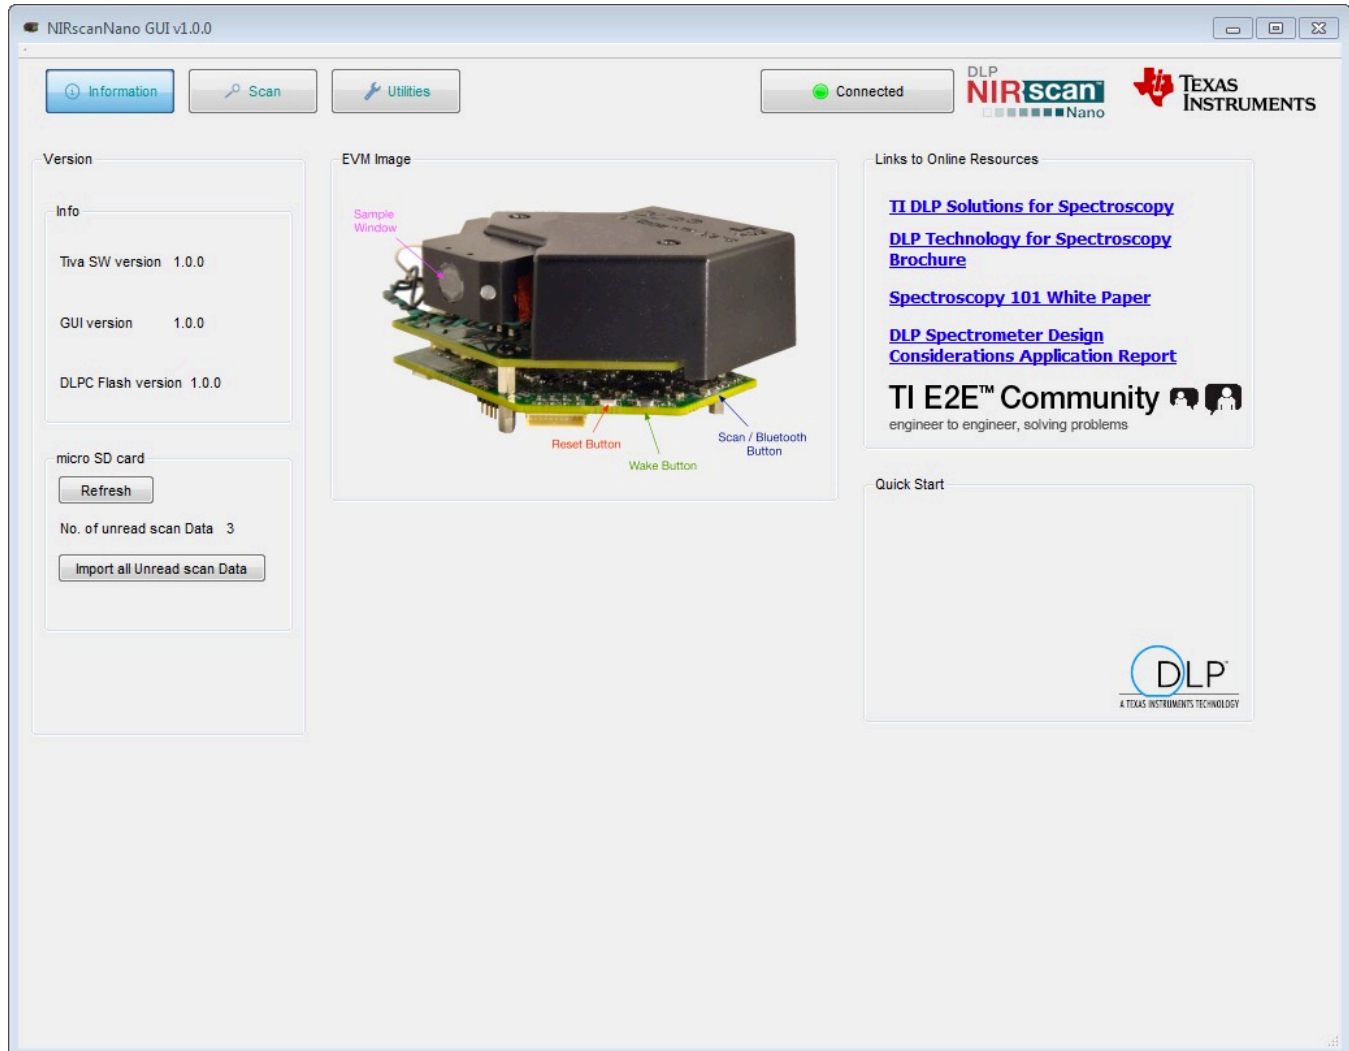

Figure 3-7. Number of Scans Detected on microSD Card
- This will read all the scans stored on the microSD card, and will report the number of scans detected after "No. of unread scan Data", as shown in Figure 3-7.